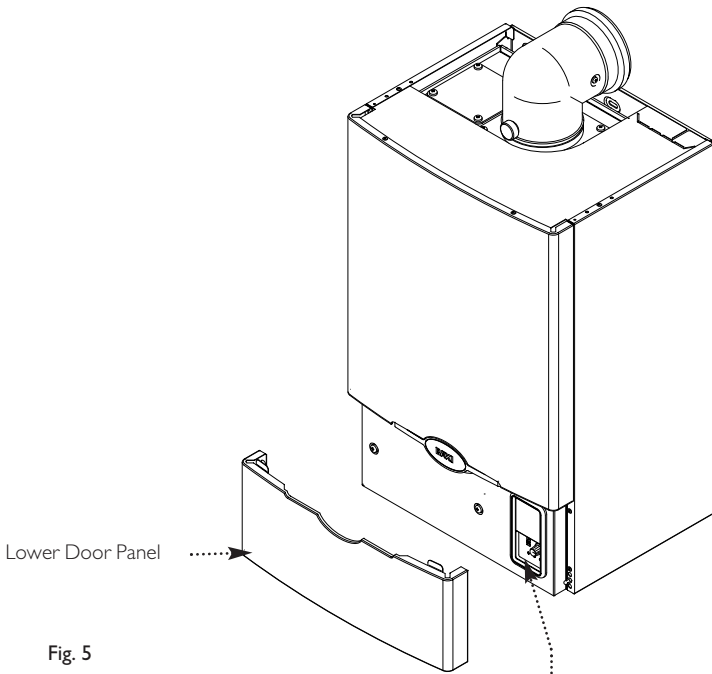

Fig. 5
4. Remove the lower door panel by gripping its lower edge and rotating upwards (Fig. 5).